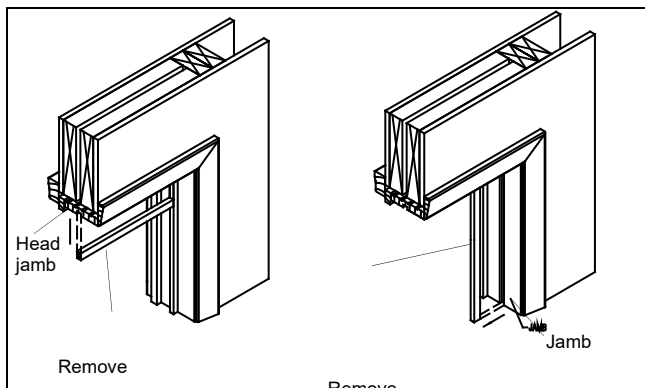

Figure 5
3. Remove the parting stop from head jamb with a stiff putty knife or pry bar. See figure 5.
4. Remove parting stops from both side jambs. See figure 5. Lower top sash and cut balance cords. Remove the top sash, disconnect and remove any balance mechanisms attached.